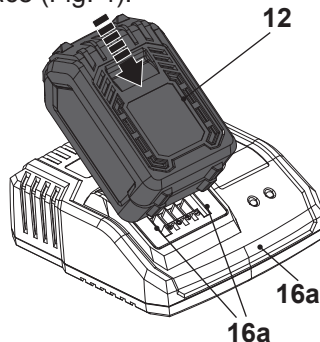

Fig. 4
1. Align and slide the battery pack (12) onto the sliding slots (16a) of the charger (16) until it locks in place (Fig. 4).